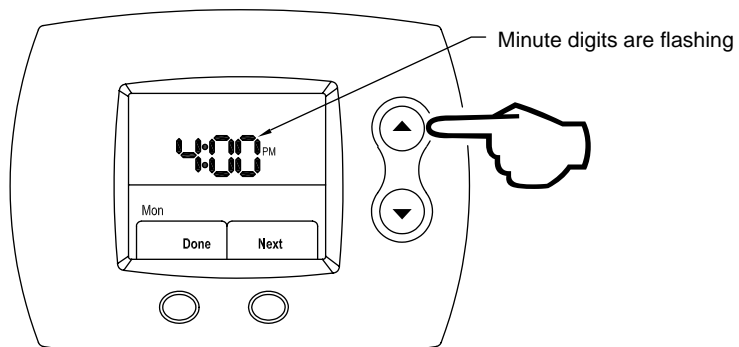

Figure 42
Step 5: Using the **UP** (increase minute) or **DOWN** (decrease minute) buttons, adjust the minute until the correct minute is shown. This process is shown in Figure 42.